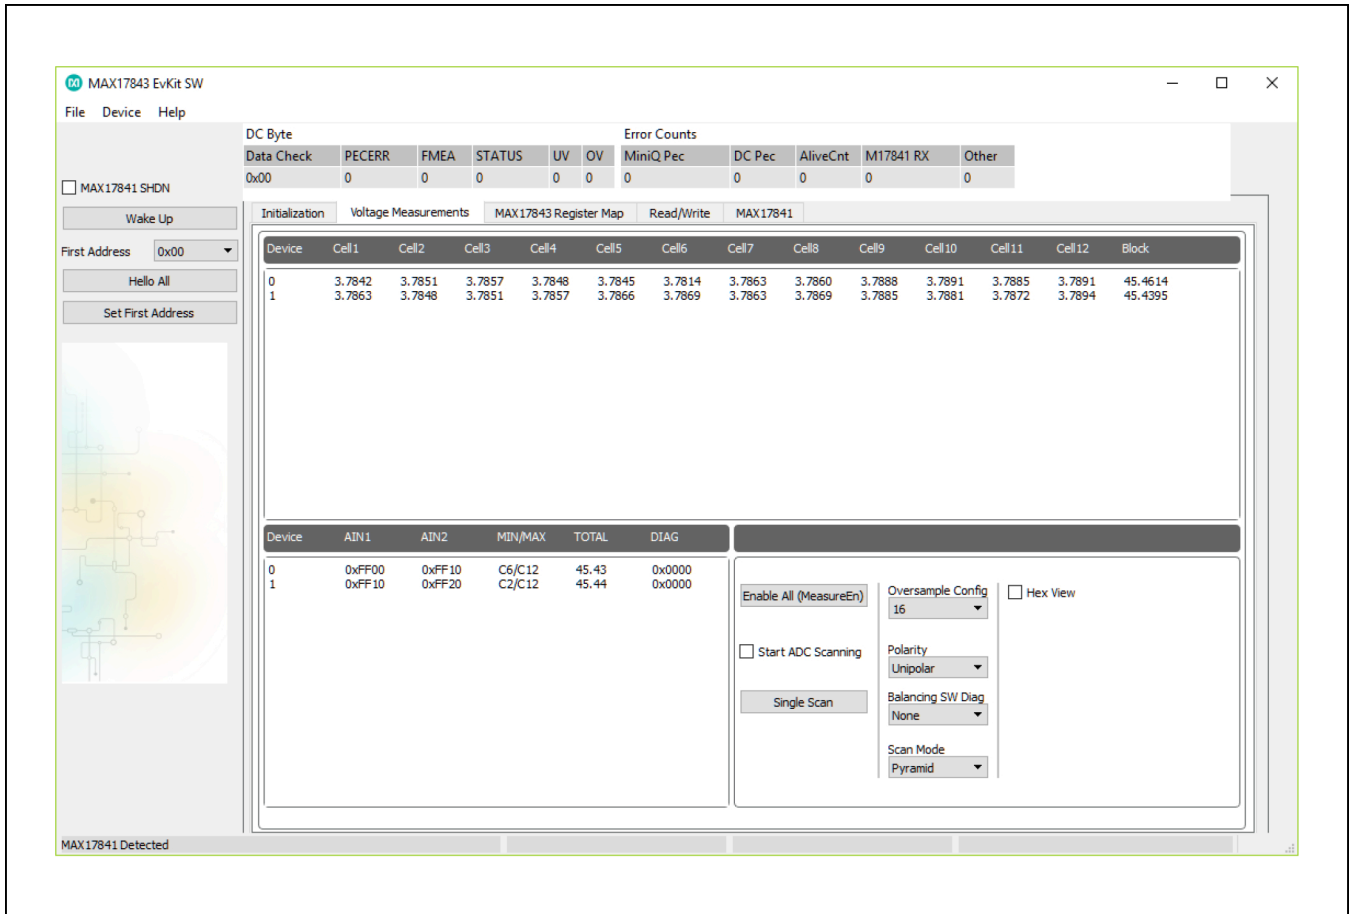

Figure 16. MAX17843 Evaluation Kit Software (Voltage Measurements Tab—OV Flag Cleared)
- 20) In the MAX17843 Evaluation Kit Software GUI, at the top OV flag also gets cleared to 0 under the **OV** field (Figure 16).